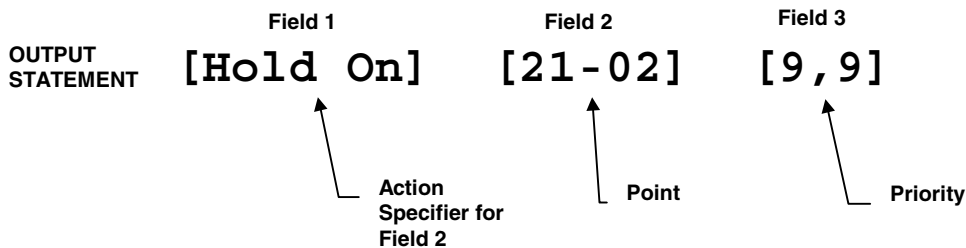

Figure 8-32
In Figure 8-32, point 23-02 will HOLD ON (IF the Input is true) at a Set priority of 9. This Output statement will maintain control of this point until another output statement with an equal (9) or greater Set priority takes over. The possible ranges for a priority are from 1 to 15, 1 being the highest and 15 being the lowest priority. By default, the priority is 9. When changing a priority, press Function and then press < > to place the cursor under the Set priority. Use <Next> and <Previous> to scroll through the priorities. Press < > to place the cursor under the Reset priority. Use <Next> and <Previous> to scroll through the priorities and then press <Enter> to program the priorities selected.